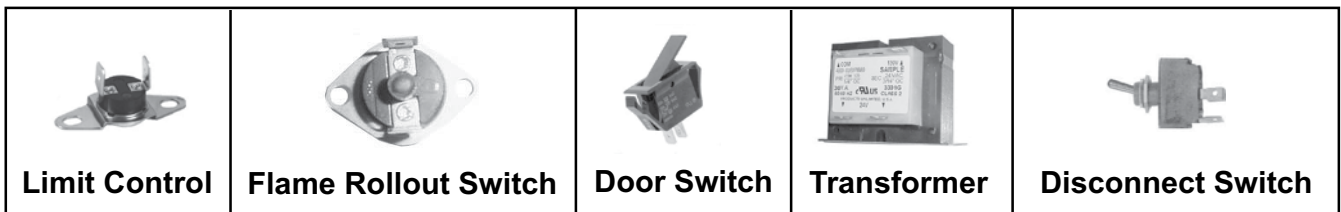

Figure 20. Replaceable Components
If it is determined that the high temperature limit control (see Figure 20) needs replacing, use only a factory-authorized replacement part that is designed for the size of heater. For the approximate limit control location, see Figure 12.
- The cause of a flame rollout switch (see Figure 20) activating must be determined. See Figure 12 for flame rollout switch location. Activation of the manually-reset flame rollout switch could be caused by one or more of the following:
If it is determined that the interlock door switch (see Figure 20) needs replacing, use only a factory-authorized replacement part that is designed for the heater. For the approximate door switch location, see Figure 12.
Use a voltmeter to verify that there are 24V output from the transformer (see Figure 20). If the transformer is not functioning, it must be replaced. Use a replacement transformer identical to the factory-installed model. For the transformer location, see Figure 12.
If it is determined that the disconnect switch (see Figure 20) needs replacing, use only the factory-authorized replacement part that is designed for the heater. Always replace the electrical box cover.